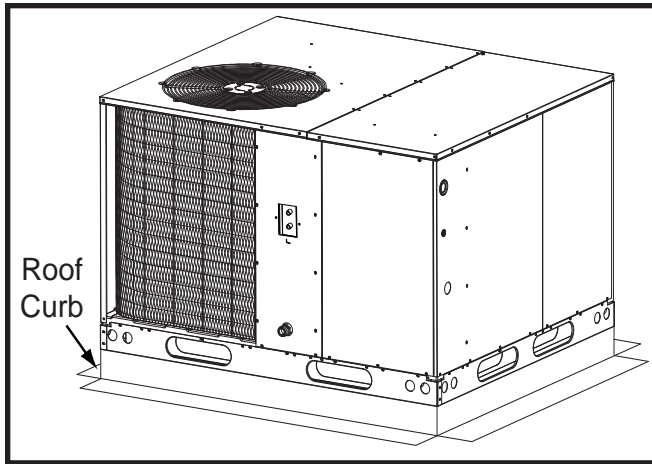

Figure 4. Roof Top Installation
- The appropriate accessory roof curb (Figure 4) must be installed prior to unit installation. The roof curb must be square and level to ensure proper condensate drainage.